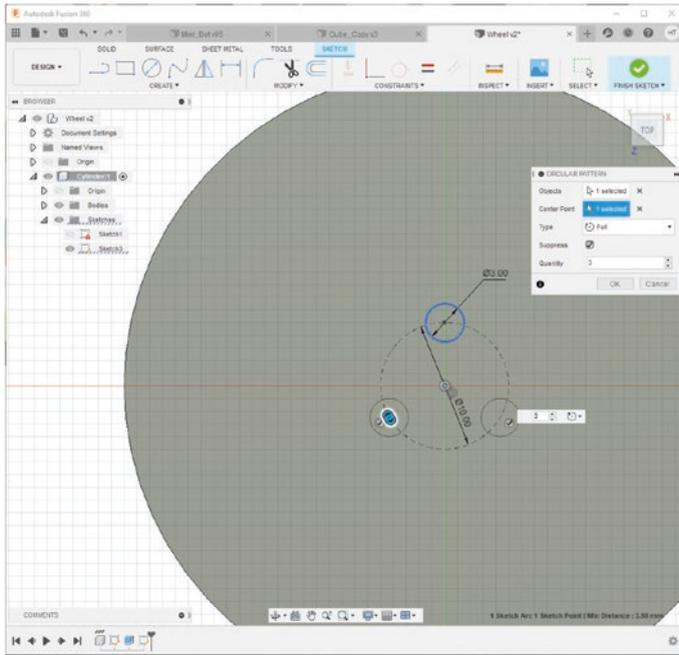

Figure 8-15. Notice three circles populate on the cylinder
7. Select the 3mm circle as the “Object,” and the “Center Point” will be the center of the 10mm circle. You will notice once you select these, you will have three circles on the screen; you can add more just by increasing the quantity. See Figures 8-15 and 8-16. Click “OK” when you are done, and you will see that these circles have been populated.